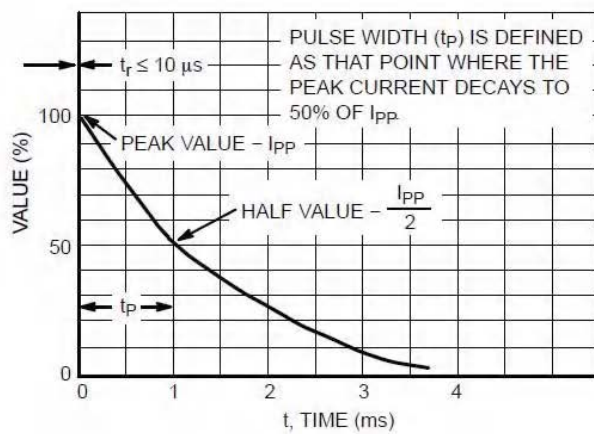

Figure 6. Pulse Waveform
- ✧ Peak power 24 or Watts @ 1.0ms (unidirectional) per Figure 6 Waveform